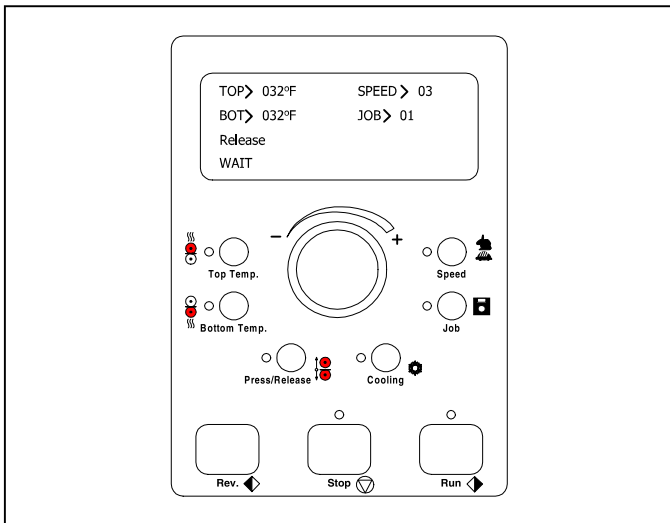

Fig. 7
Displays the current main roller position. In figure 7, the roller is shown in the "Release" position. Refer to Roller Handle for more information.
**C. CONTROL PANEL:** (Figure 7)